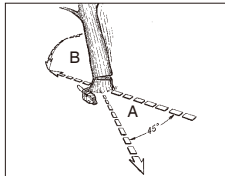

Fig. 11A
**⚠ WARNING:** A retreat path (A) should be planned and cleared as necessary before cuts are started. The retreat path should extend back and diagonally to the rear of the expected line of fall, as illustrated in Fig. 11A.
**NOTE:** Direction of fall (B) is controlled by the notching cut. Before any cuts are made, consider the location of larger branches and natural lean of the tree to determine the way the tree will fall.
**⚠ WARNING:** As the felling cut gets close to the hinge, the tree should begin to fall. When tree begins to fall, remove saw from cut, stop engine, put chain saw down, and leave area along retreat path (Fig.11A).